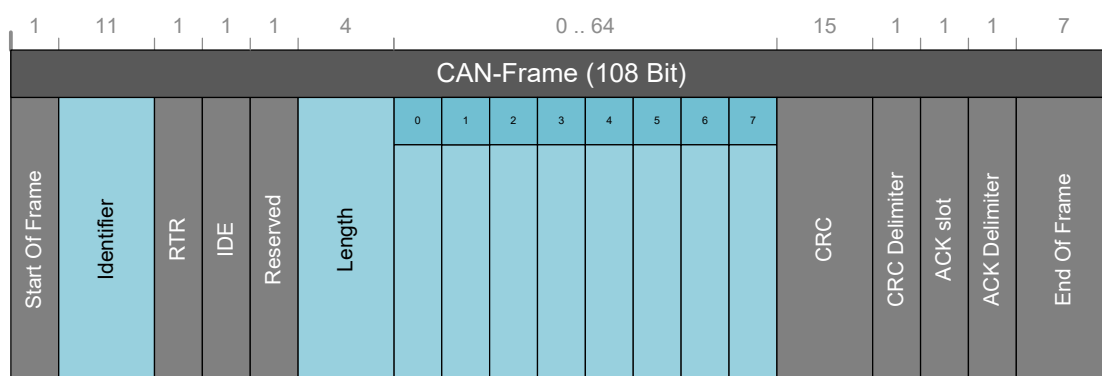

Fig. 10-3 CAN frame
Fig. 10-3 displays the content of a CAN message (frame) with the inscription of the corresponding identifier and its length. Tables 10-1 and 10-2 display which identifier is used for communication with the Nexa® 1200 fuel cell system and show its length (byte) and its transfer rate (T). An exact description of the message contents can be found in chapters 10.6.1 and 10.6.2.